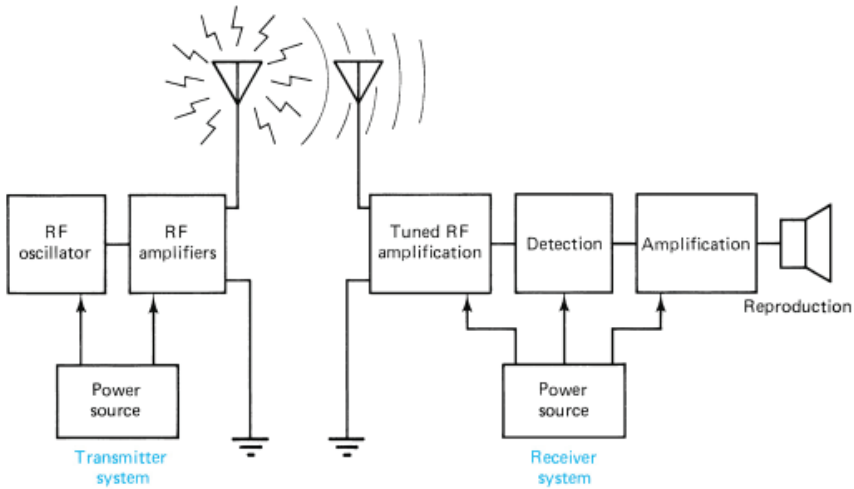

Figure 21.2 RF communication system with transmitter-receiver.
An RF communication system is very similar to any other electronic system. It has an energy source, a transmission path, control, load device, and one or more indicators. These individual parts are essential to the operation of the system. The physical layout of the **RF communication system** is very important. **Figure 21.2(a)** shows a block diagram of a radio frequency (RF) communication system. The signal source of the system is an RF transmitter. The **transmitter** is the center or focal point of the system. The RF signal is sent to the remaining parts of the system through the atmosphere or air, which is the transmission path of the system shown. RF finds air to be an excellent signal path as compared to other media.
Figure 21.2(b) shows a simplification of the transmitter and receiver as independent systems. The transmitter has an RF oscillator, amplifiers, and a power source. The antenna-ground at the output circuit serves as the load device for the system. Intelligence is applied according to the design of the system. The system may be continuous-wave (CW), amplitude modulation (AM), or frequency modulation (FM).